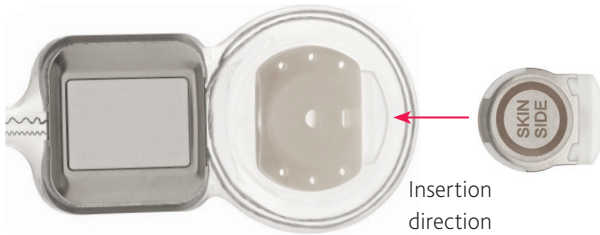

Figure 36: Replacement magnet cassette insertion direction
- the engraving SKIN SIDE (or MRI) is facing up – see *Figure 36* below